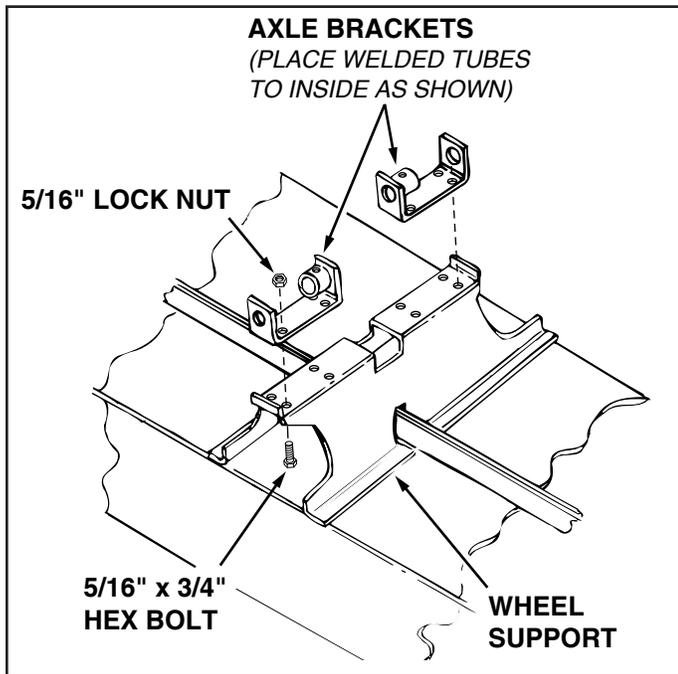

FIGURE 8
sembly procedures, lower the cart to rest upside down on its top flanges, so that the wheel support is facing up. See figure 8.
- Assemble both axle brackets to the wheel support using eight 5/16" x 3/4" hex bolts and 5/16" hex lock nuts. Place the welded tubes to the inside. See figure 8.